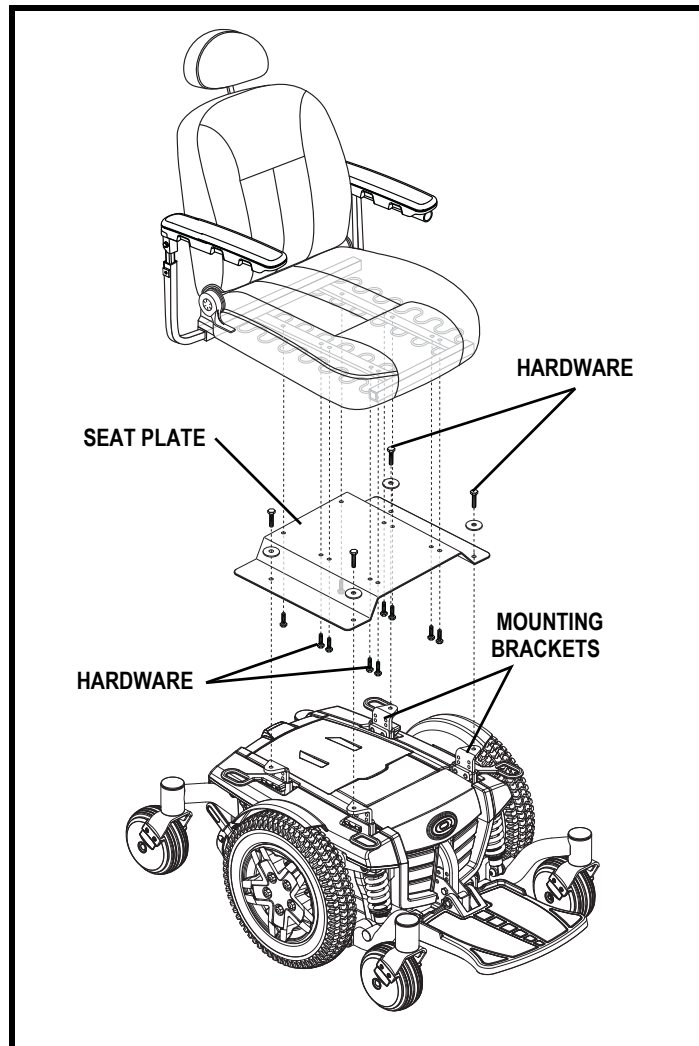

Figure 9. Seat Installation—Occupied Transit
For occupied transit power chairs, the seat plate is secured to the four seat mounting brackets on the power base. The seat plate is located on the bottom of the seat. See figure 9.
1. Attach the seat plate to the four mounting brackets on the power base and ensure all hardware is properly installed and tightened securely. See figure 9.